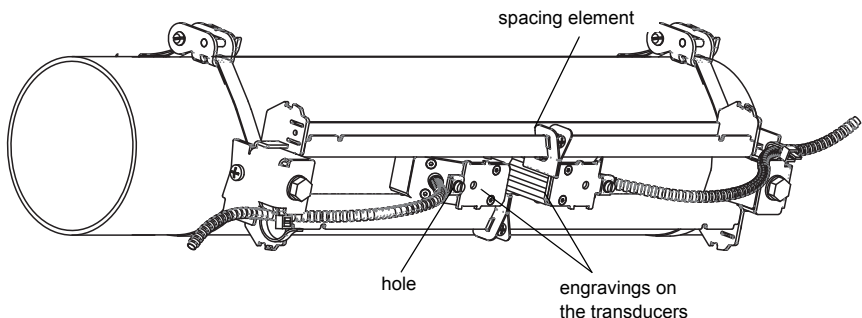

Fig. 7.34: Transducers in the rail (spring clip not shown)
- Position the transducers on the rail in such way that the engravings on the transducers form an arrow. The transducer cables show in opposite directions (see Fig. 7.34).
- Fix the transducers by tightening the tensioning screws slightly. The end of the screw must be rotated into the hole on the transducer (see Fig. 7.34).
- Fix the spacing element on the rail to mark the transducer position (see Fig. 7.34).